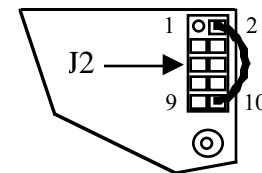

Figure 4-5
- Install this wire between pins 2 and 10 of J2, in the upper right-hand corner of the board (Figure 4-5). The pins on J2 are counted from left to right and top to bottom as shown.